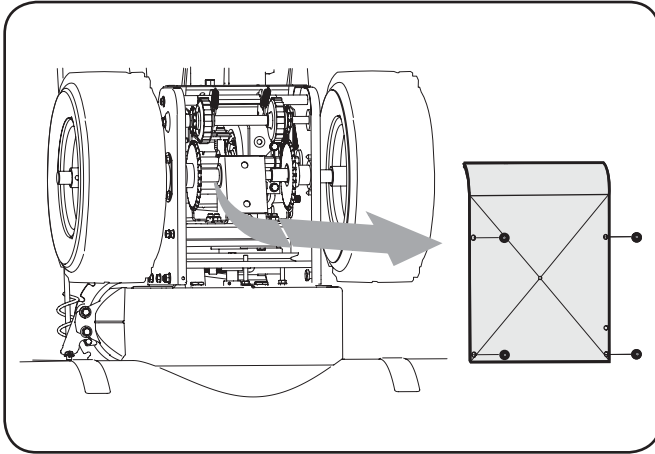

Figure 6-6
2. Remove the frame cover underneath the snow thrower by removing the self-tapping screws. See Figure 6-6.